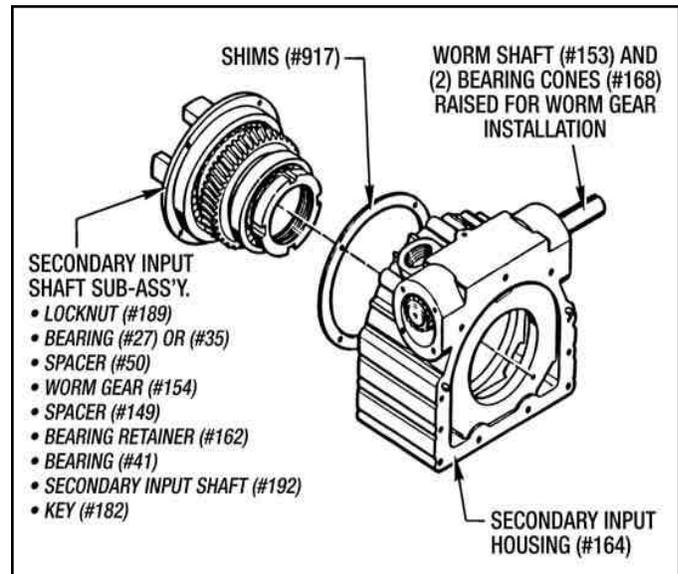

Figure 7.10 - Removing Secondary Input Shaft Sub-Assembly
- Manually raise the Worm Shaft (#153) to the top of the bearing bores and slide the Secondary Input Shaft Sub-assembly out of the rear of the Housing. (See Figure 7.10)
8. Unscrew and remove (4) Screws (#278) along with (4) Lockwashers (#126) from the Bearing Retainer (#163).
9. Manually raise the Worm Shaft (#153) to the top of the bearing bores and slide the Secondary Input Shaft Sub-Assembly out of the rear of the Housing. (See Figure 7.10)